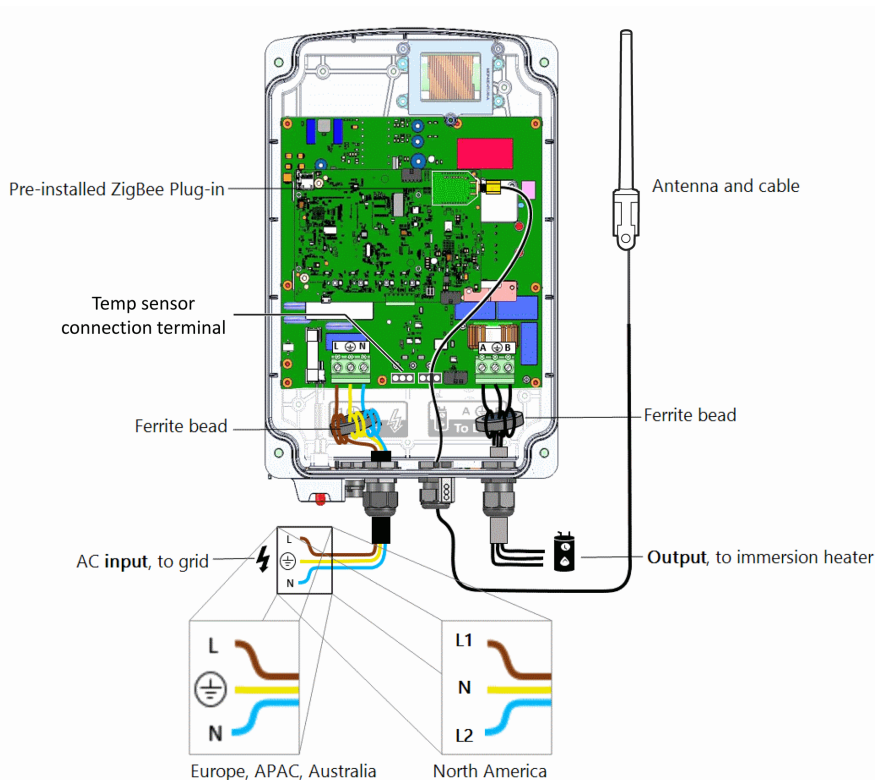

Figure 9: Smart Energy Hot Water wire connections
Do not connect the device *output* (labeled A & B) to the grid, as this will damage the product and void the warranty. Connect the AC grid cable to the designated *input* only (see *Figure 9*).
3. Connect AC (to the grid; see *Figure 9*):
4. Connect to the immersion heater (see *Figure 9*):
- g. Fasten the connector of the antenna cable to the pre-installed ZigBee Plug-in (see *Figure 9*).
8. Turn On the device by turning the ON/OFF/P switch to **1** (ON) - all LEDs turn on for two seconds, then they flash quickly for two seconds.